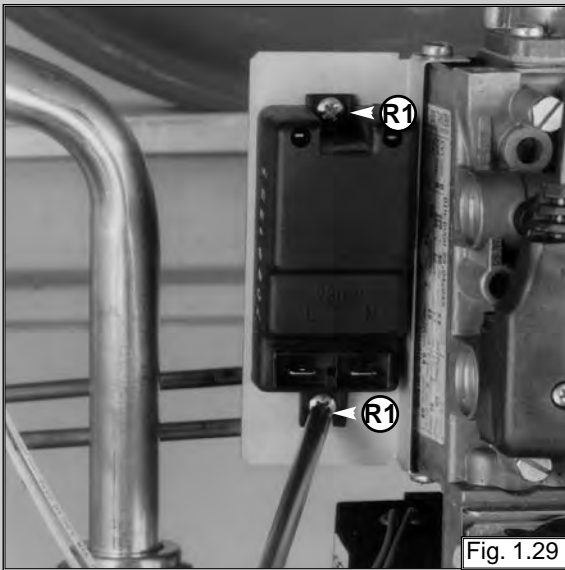

Fig. 1.29
2. Remove the screws "R1" (see fig. 1.29) with a Pozidrive No. 2 star tip screwdriver;